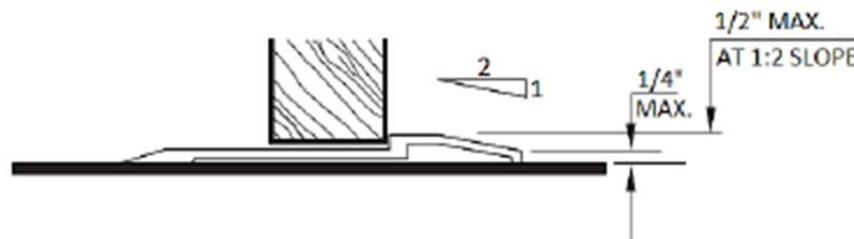

FIGURE 11A-8I
- ☐ Maximum 50% beveled slope for changes in level between 1/4 inch and 1/2 inch per CBC Figure 11A-8I